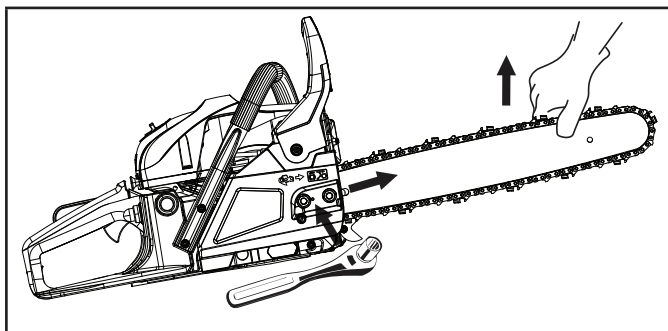

Figure 25
2. On the clutch housing, loosen (counter clockwise) the two 13mm nuts (1/4 to 1/2 turn) that secure the housing to the engine assembly. The nuts need to be loosened enough to allow the bar to move. Do not loosen the nuts more than 1 full turn. You will notice that the bar will move with minimal effort (Fig. 25).